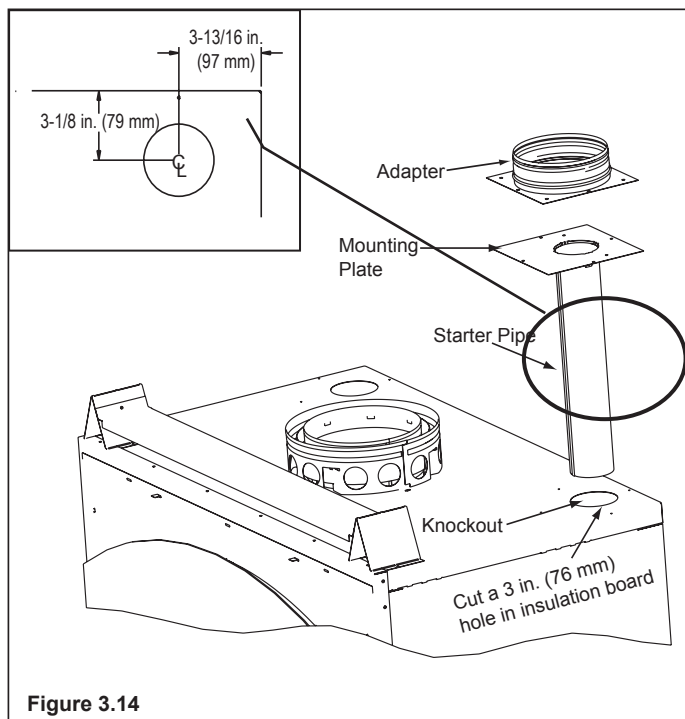

Figure 3.14
- Remove the knockout or cover plate from the top of the fireplace and discard it. See Figure 3.14.
- Cut a 3 in. (76 mm) hole in the insulation board as per the dimensions shown in Figure 3.14.